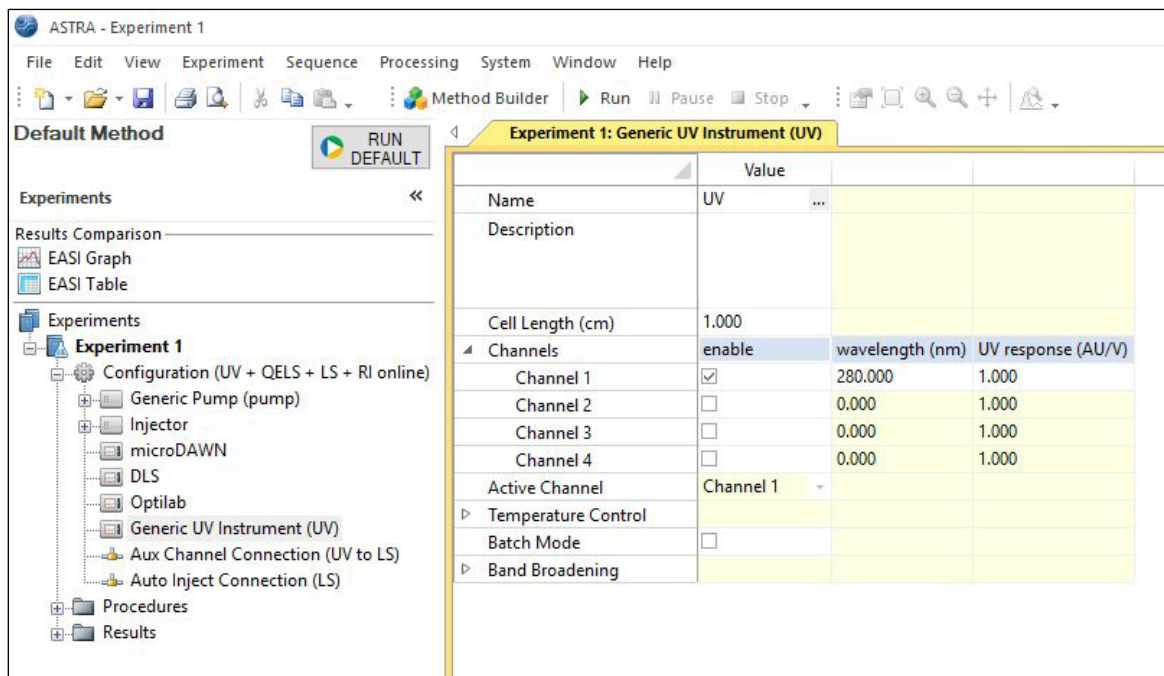

Figure 7: A screenshot of ASTRA software with the **Configuration** node expanded and **Generic UV Instrument (Generic UV)** selected.
2. Expand the “**Configuration**” tree and double-click on **Generic UV Instrument (UV)**. This will expand the instrument profile, and allow you to enter the necessary instrument information (see Figure 7):